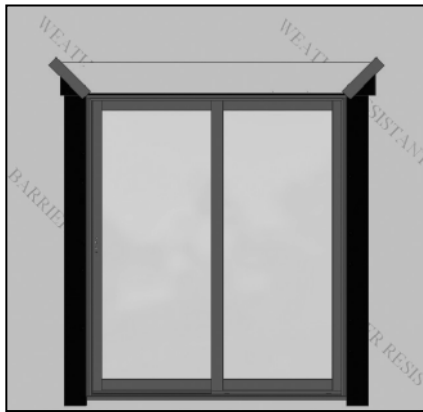

FIG. 23
- E) Tape the cut seams of the WRB. (Fig. 23)